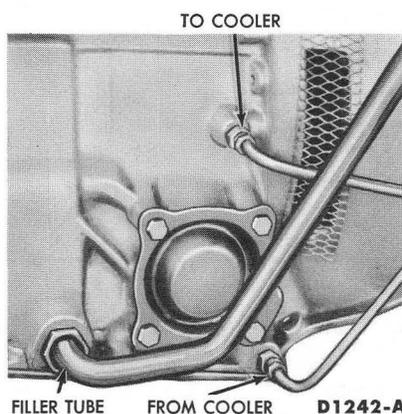

FIG. 2—Cooler Line Connections at Transmission (170 Six Engine)
3. Disconnect the converter-out line from its fitting on the lower right-hand side of the transmission case (Fig. 2). Remove the fitting from the case. Remove the hose from the gauge T57L-77820-A. Connect the hose to the converter-out $\frac{1}{8}$ -inch pipe thread in the transmission case.